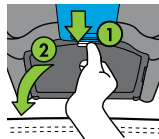

Figure 33
Open LATCH Bin Door by pressing and holding top of Lock Tab (1) then rotating LATCH Bin Door down (2), as shown in **Figure 33**.